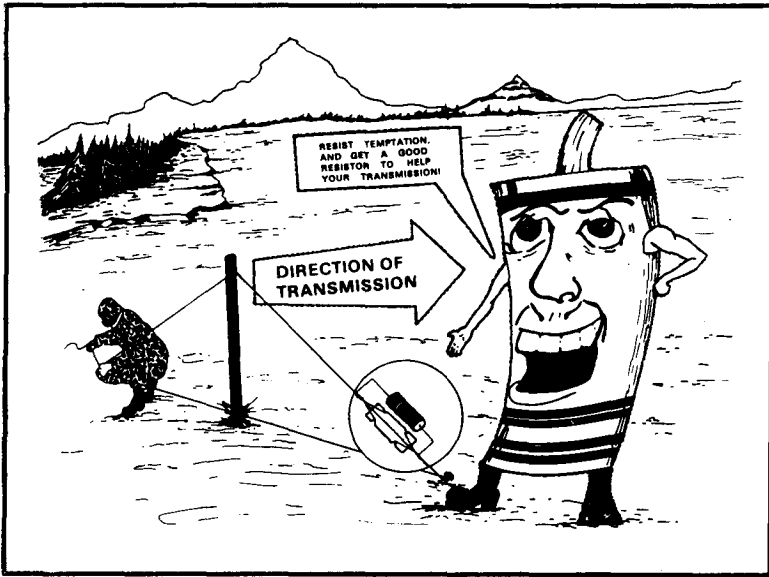

Figure 3-21. Proper resistor.
(1) When one or more wires on an antenna are broken, the antenna can be repaired by reconnecting the broken wires. To do this, lower the antenna to the ground, clean the surface of the wire, and twist the wires together. Whenever possible, solder the connections.
(2) If the antenna is damaged beyond repair, substitute another antenna. If antenna sections are not available, WD-1 (field wire) can be used as a substitute. Ensure the length of the wire is the same length as the original antenna and you have a good wire to antenna contact.
e. Building a good field-expedient vertical half-rhombic antenna calls for a good resistor, not a dead BA-30 battery or a C-rat can full of sand and oil. Plan ahead. If you can, lay in a supply of the 600-ohm 2-watt resistors. Since 600-ohms is not a standard resistor value, you have a choice. Get a 620-ohm, 2-watt with NSN 5905-00-407-6167, or wire 2 1200-ohm, 1-watt resistors in parallel. Get them with NSN 5905-00-369-6916. Then, follow the directions on how to fabricate antennas. Put the resistor on the end nearest your receiving station. Remember, resistor wattage must beat least half of the radio's output wattage. (See Figure 3-21.)